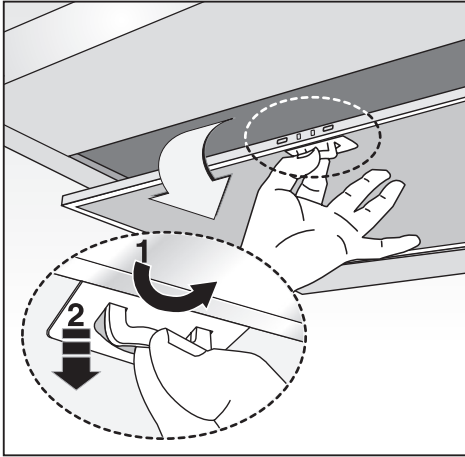

Fig.16
duct used to circulate hot air or for evacuating fumes from other appliances generated by other than an electrical source. Before proceeding with the assembly operations, remove the anti-grease filter(s) (Fig.16) so that the unit is easier to handle.
- If the cooker hood is supplied with a lower chimney piece that must be fixed to the hood body with screws, remove the anti-grease filters from the hood by acting on the relevant handles (Fig.16).